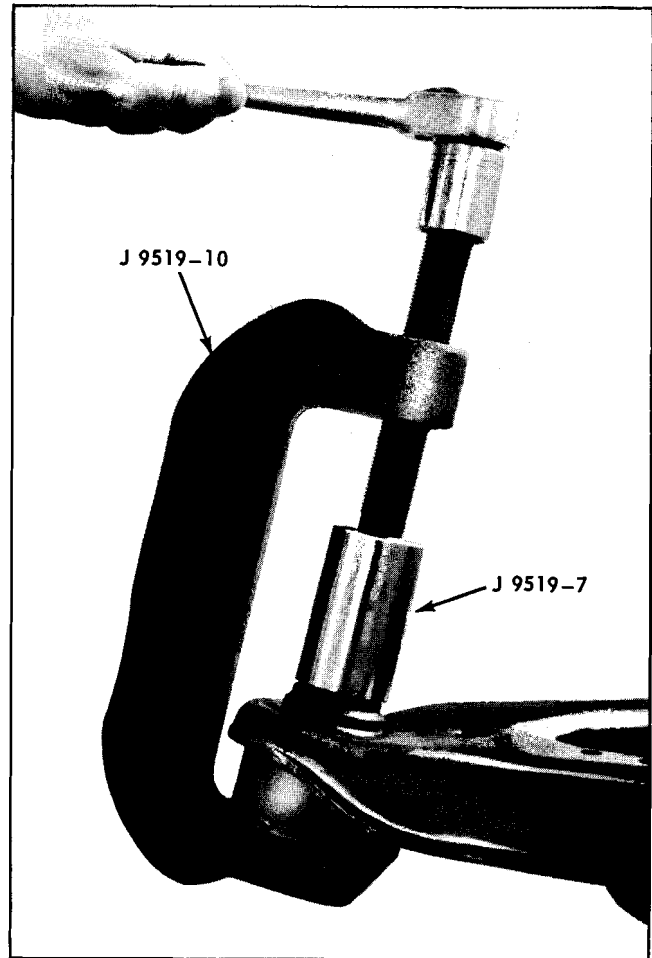

Fig. 3-32 Removing Lower Ball Joint
5. Remove ball joint from lower control arm by arranging tools as shown in Fig. 3-32.